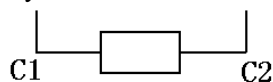

Fig. 6
B. Shunt release (see Table 11, Fig. 6)